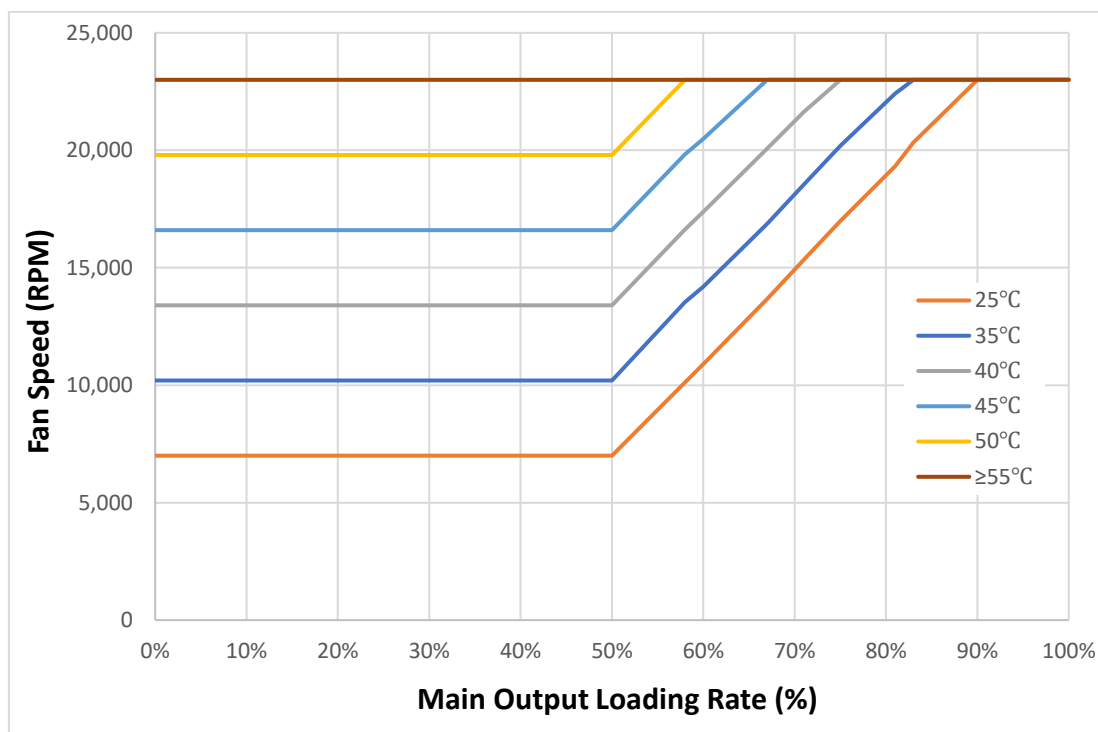

Figure 9. Fan speed versus main output load
- Load depending on Fan Speed curve, see *Figure 9*.